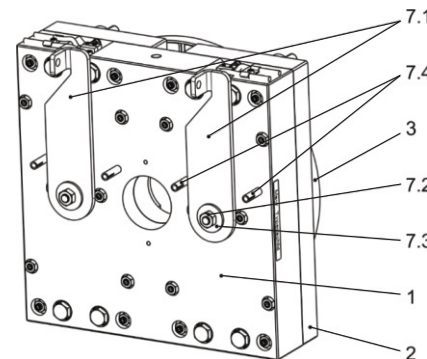

Fig. 6 (Hand release for Bowden cable)
The brake is released by moving both hand release levers simultaneously (7.1), see Figs. 6 and 7. The armature disk (2) is attracted to the coil carrier (1); the rotor (3) is then free and the brake is released.
Guidelines on the hand release for Bowden cable (Fig. 6)